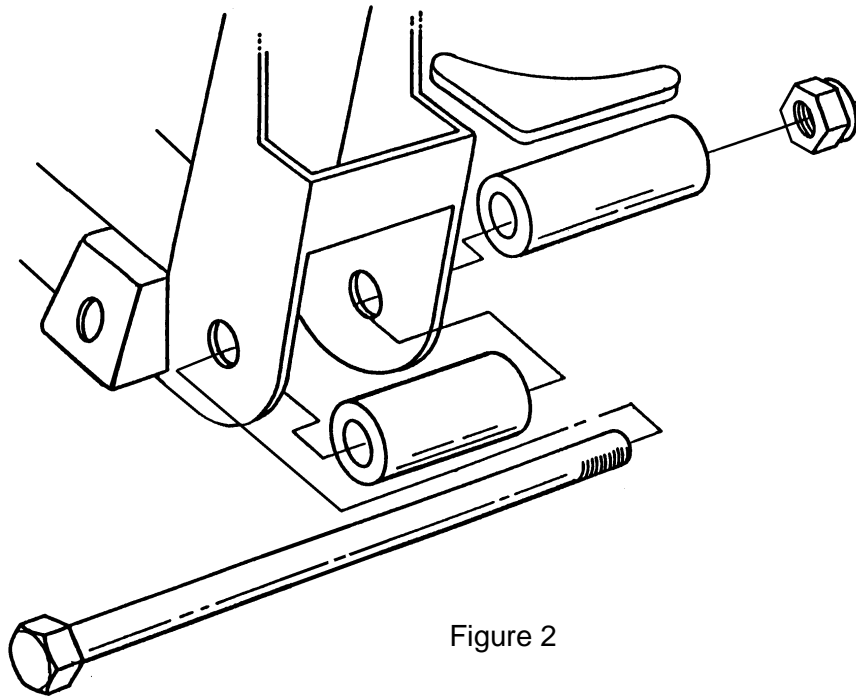

Figure 2
5. If you purchased a complete I.F.S. Package from *HEIDTS*, it was supplied with Full Lower A-Arms. Begin by installing the Spacers onto the crossmember. The holes where the lower control arms attach to the Crossmember must be enlarged to 5/8". Mount the Crossmember Spacers and the Rear Spacers which were supplied with the Lower Control Arms onto the Crossmember as shown in Figure 2 using the supplied Inner Bushing Bolts, Nuts and a temporary spacer under the Nuts. DO NOT use the A-Arms for this operation as the welding heat will melt the rubber bushings. Tighten the Bolts and Nuts tight. Weld the Rear Spacers to the Crossmember all around. Weld the Crossmember Spacers as far as possible inside the crossmember on both ends. Position the Gussets horizontally as shown, not vertically, against the Rear Spacers and the back of the Crossmember. Weld Gussets to Spacers and Crossmember. When it cools, remove the bolt.